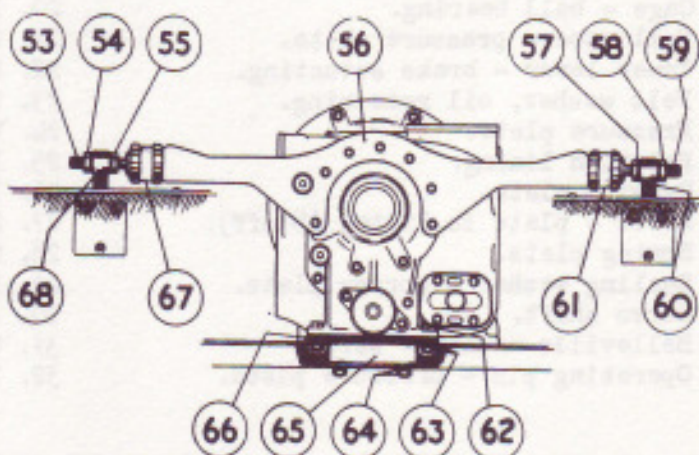

FIG. 23. ENGINE AND GEARBOX REAR MOUNTING.
- (a) Without disturbing the position of the outer nut (54, Fig.23), so as not to upset the original lateral adjustment of the left-hand side adjusting screw (53), slacken back the inner nut (55) as far as it will go, at same time, holding the outer cup (i.e. the one attached to the adjusting screw) by hand to prevent it turning, move the screw outwards and then withdraw the torque re-action rubber (67).